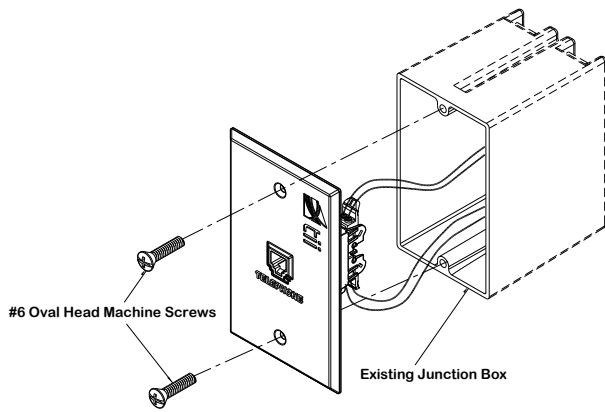

Figure 2
7. Dress the wires properly inside the junction box and secure the 761-2 to the junction box using the supplied #6 oval head screw's (See Figure 2).